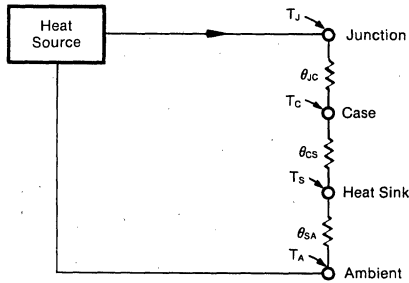

FIGURE 5. Simplified Steady-State Heat Flow Model.
8.4 Heat sinking. The OPA501 requires a heat sink to limit output transistor junction temperature (T_j) to an absolute maximum of $+200^\circ\text{C}$. The steady-state thermal circuit is illustrated in Figure 5.